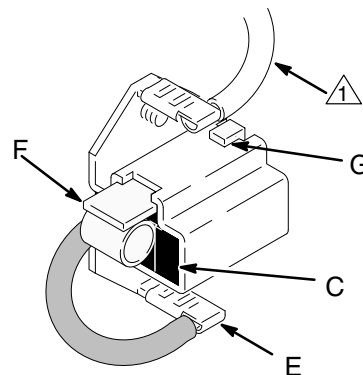

Fig. 15 03881
7. Holding the spring clip (F) at a slight angle, slide the spring clip into the brush holder and hook it over the end of the holder. See Fig. 15. Pull on the spring clip to be sure it stays in place. Connect the brush lead to the blade connector (E).